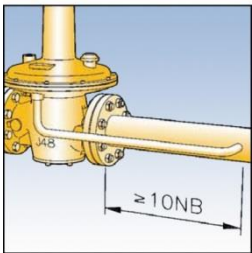

Fig. 2
10. Connect the impulse line (½"), using a jointing compound approved to national standards, and lead to a point downstream not less than ten times the nominal pipe diameter from the outlet. See Fig. 2.